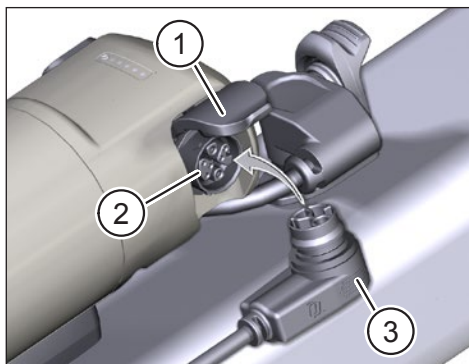

Fig. 3: Range Extender charging
- Open the cover (item 1 in Fig. 3) on the charging port of the Range Extender.
- Check that the contacts in the charging port (item 2 in Fig. 3) are free of dirt and clean them if necessary.
- Insert the charging plug (item 3 in Fig. 3) of the Charger into the charging port of the Range Extender.